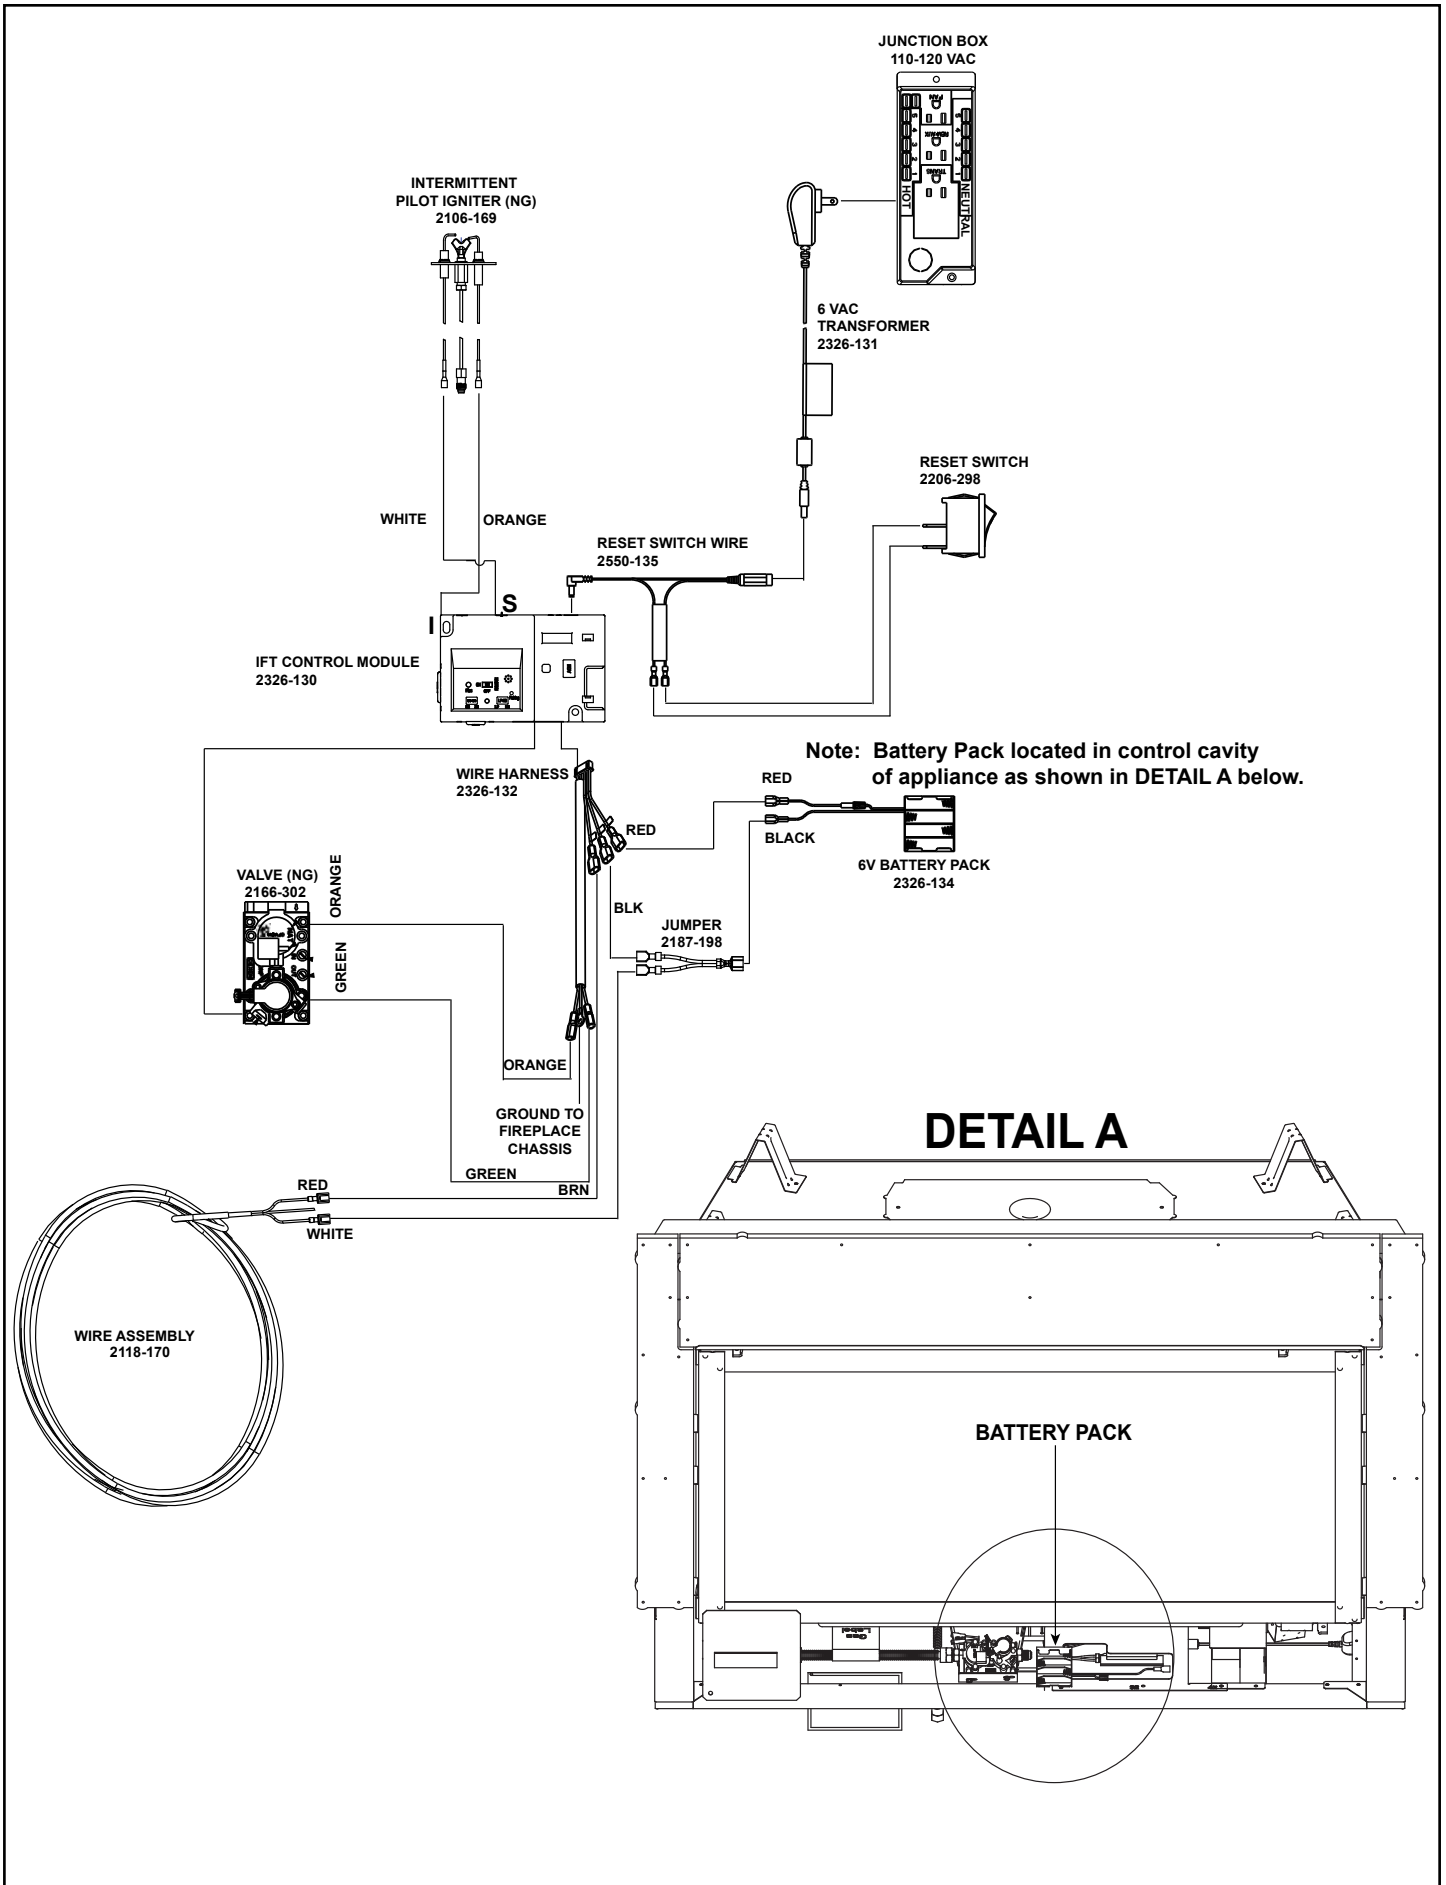

Figure 8.5 Intellifire™ Touch Wiring Diagram - Standard
- Refer to Figures 8.5, 8.6, and 8.7, IntelliFire™ Touch (IPI) Wiring Diagrams.